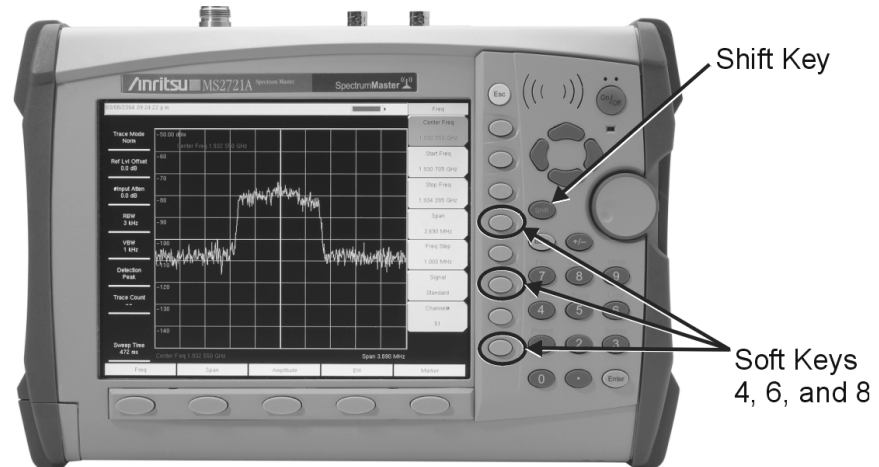

Figure 1. MS8911A ISDBT Field Tester Service Key Sequence
17. Press and hold the **Shift** key and press the **4**, **6**, and **8** (from top) soft keys together to enter into the ISDBT Field Tester Service Mode (Figure 1).